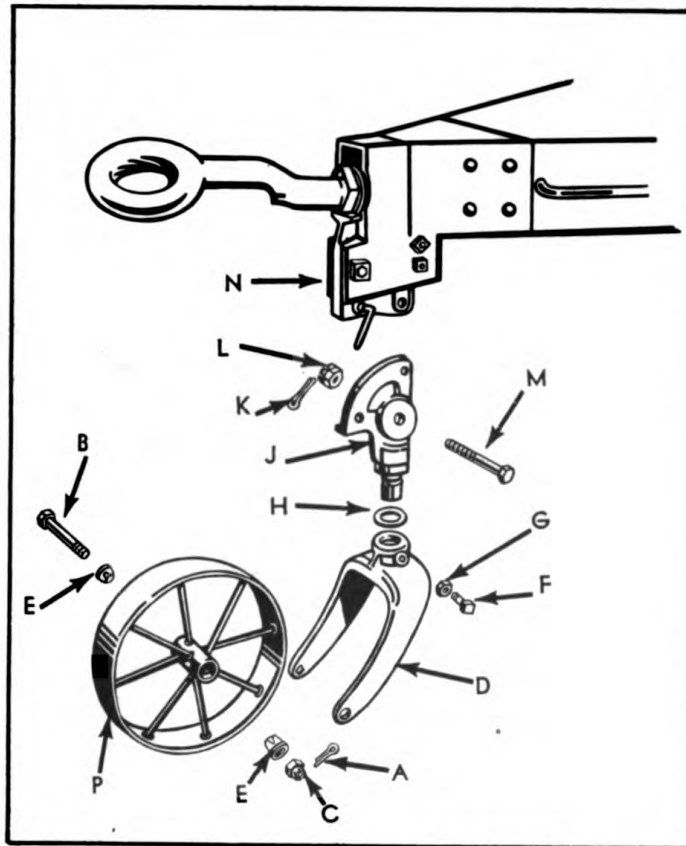

FIG. 97 Removing Caster Wheel
To remove the quadrant and swivel pin (J) (See Fig. 97) remove the cotter pin (K), castellated nut (L), and cap screw (M), that holds the quadrant (J), to the drawbar bracket (N).